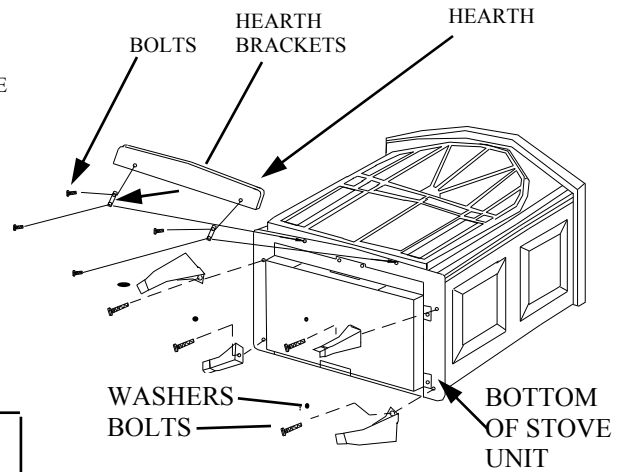
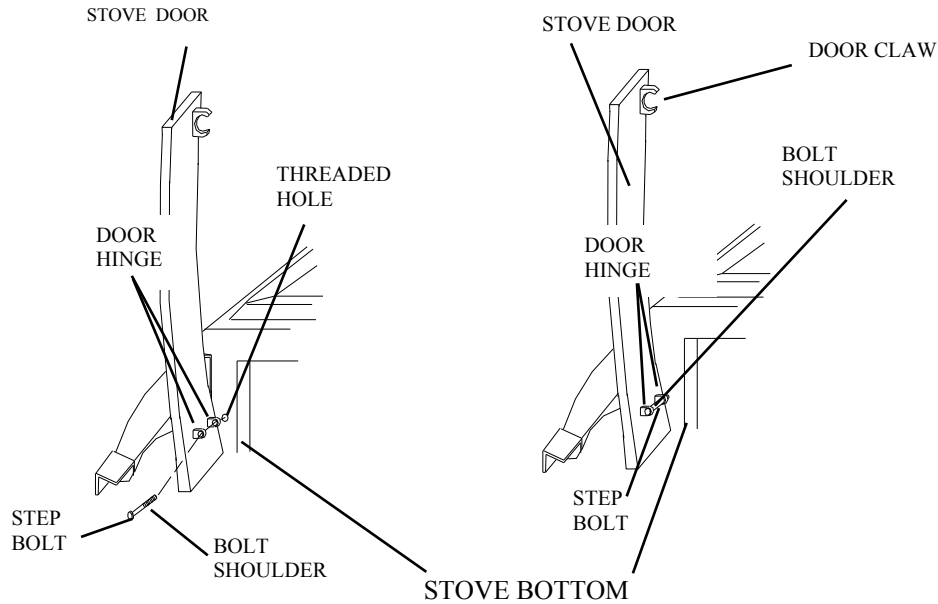
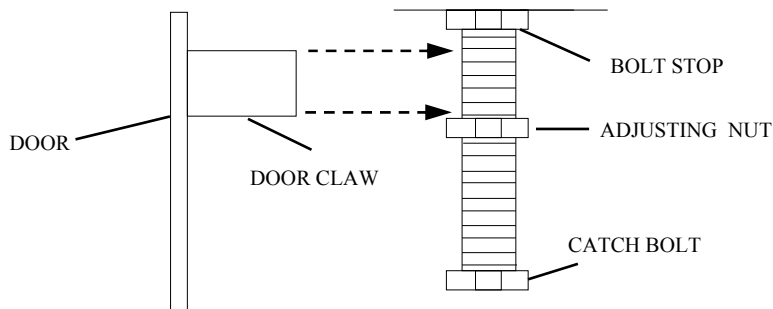

FIGURE 2
Figure 4-Attaching Lower Stove Door Panel
FIGURE 5 - CATCH BOLT AND DOOR CLAW ORIENTATION
6. Fasten each leg with the four (4) M8 x 1.25-20 mm bolts provide. Use a flat washer with each bolt. Tighten bolts into threaded holes on the cast stove (body) housing. Next attach the hearth to the cast stove body using the (2) two brackets provided and the (4) bolts provided (See Figure 2).
9. Attach the access cover door by inserting the step bolt through the door hinge pivot hole (See Figure 4) and into the threaded hole (See Figure 4) in the bottom of the front of the cast housing. Use an adjustable wrench or a 12 mm socket to fasten the step bolt. Tighten the step bolt until snug. Make sure the door moves freely.
8. Next install the door catch bolt (M8 x 1.25-55 mm with two (2) M8 hex nuts) (see Figure 4) into the threaded hole located on the front bottom of the cast housing (See Figures 2 and 4). Use an adjustable wrench or a 12mm socket. The catch bolt has two (2) hex nuts attached to it (See Figure 5). The top nut is a bolt stop and the bottom nut is for the door leveling adjustment.
- (c) Secure each section to each other using at least three (3) sheet metal screws or rivets.
- (d) Use three (3) sheet metal screws to fasten pipe to connector collar on heater.
1. Suspend a plumb bob from the ceiling above the unit so that the weight is hanging in the center of the flue exit (A small weight on a string will serve as a plumb bob) (See Figure 5). Mark the ceiling where the string is suspended to locate the center of the chimney hole.